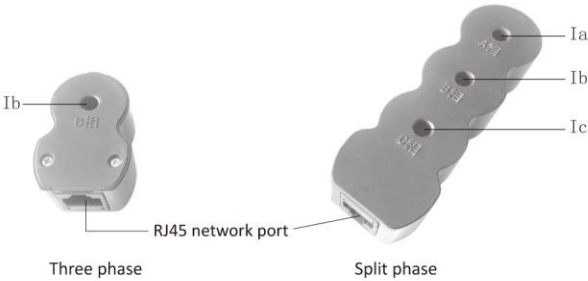

Figure 8-1 Cored secondary current transformer (secondary CT)
(1) If there is a controller, 300-type plug-in cable shall be selected to connect the first or last capacitor with the controller. The orange white wire at one end of the cable is connected to the "A" end of the controller RS-485 port, and the orange wire is connected to the "B" end of the controller RS-485 port. At this time, the cored secondary current transformer can not be used.
(2) If there is no external controller, please pay attention to the mark of the cored hole on the transformer when connecting the cored secondary current transformer. When there is a split phase capacitor, the output lines (0-5A) of A, B and C three-phase current transformer in the incoming cabinet shall respectively pass through the split-phase cored secondary current transformer (as shown in Figure 8-1), and correspond to the phase sequence of A, B and C. If there are only three-phase compensation capacitor, the output line (0-5A) of B-phase current transformer in the incoming cabinet shall be passed through the middle hole of three-phase cored secondary current transformer (as shown in Figure 8-1).